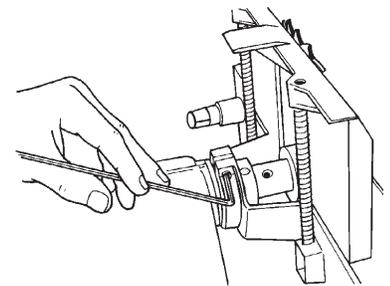

Figure B-107
90. Use the $5/32$ " Allen wrench to tighten the socket head screw (215) on the saw guard collar, as seen in Figure B-107.